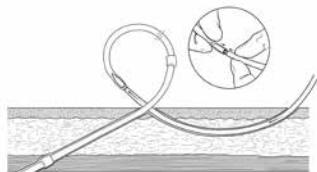

Figure 36
7. Slide end of catheter over tip of Tunnelor Tool approximately 3-4 cm. (Figure 36).